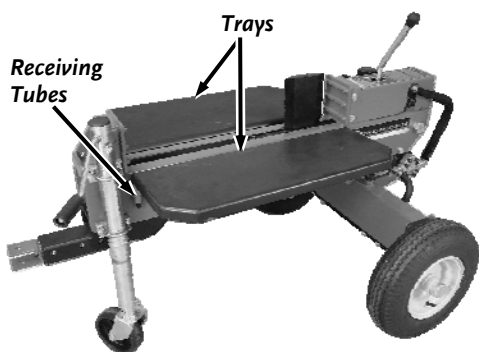

Figure 18
29. Install the Trays onto the sides of the Beam assembly by aligning the legs with the receiving tubes and secure with the Hitch Clips (**Figure 18**).